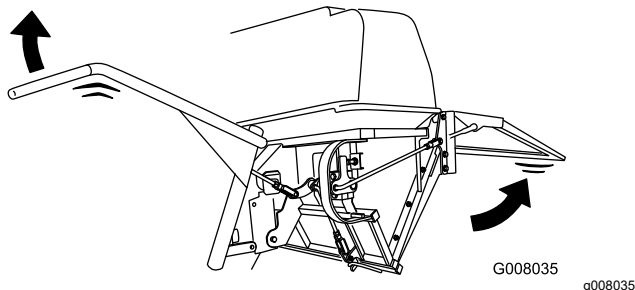

Figure 32
3. Push the handle down to close the door (Figure 32).